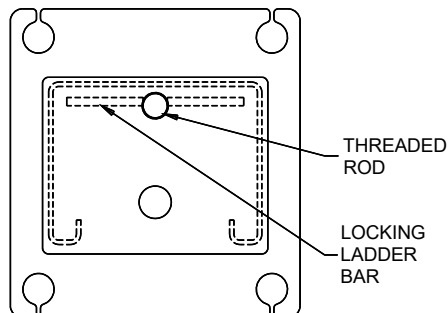

Fig 8 – Locking Ladder Orientation
- 16) Stand up a column assembly near each corner of the lift (column with power unit bracket goes at the 4-sheave-stack corner, power rear) and check the locking ladder bar orientation per **Fig 8**. Note that the center of the threaded rod is offset (away from the back of the column) from the center of the ladder. Thread the locking ladder jam nut (located under the column top plate) down approximately 6" to allow the ladder to be lifted freely.